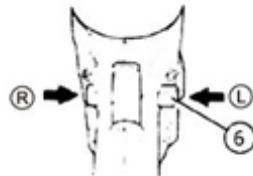

Fig. 5
Reverses switch (6) (see Fig5) can be used only after full stop of the engine.
To prevent the accident starting the drill has the special block option. It is recommended to use this option when the drill not in use or replacing the drill. This option is switch on by placing the revers button to the middle position (see Fig.5).